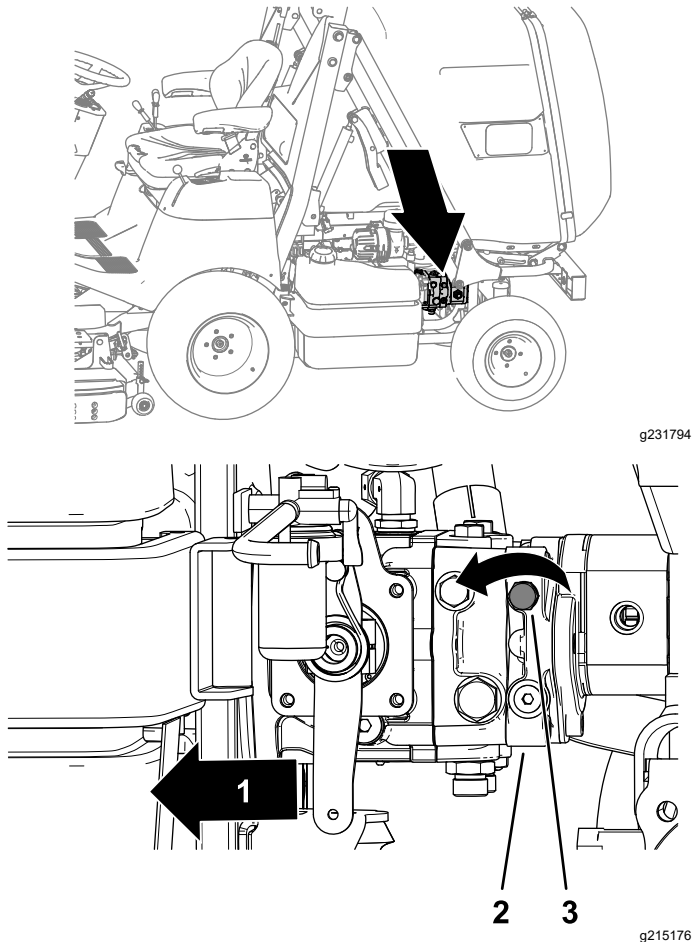

Figure 33
1. Locate the control knob for the bypass valve at the left side of the hydraulic pump (Figure 33).
2. Using a socket wrench with a 17 mm socket, rotate the control knob 3 turns counterclockwise (Figure 33).
2. Using a socket wrench with a 17 mm socket, rotate the control knob (Figure 33) clockwise until you feel resistance (the bypass valve is closed).